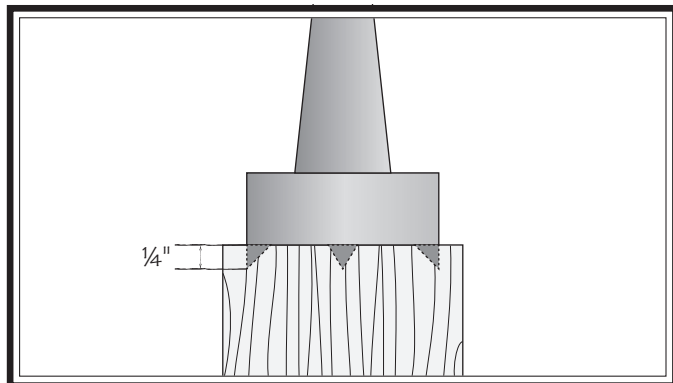

Figure 34. Spur center properly embedded.
6. Drive spur center into headstock-end center mark of workpiece with a wood mallet to embed it at least $\frac{1}{4}$ " into workpiece (see Figure 34).